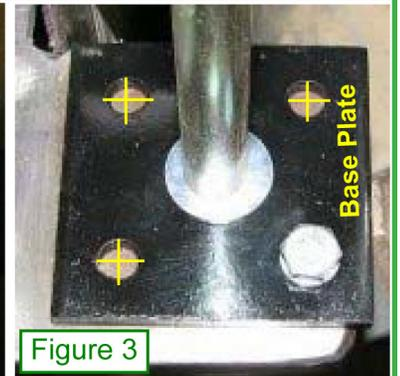

Figure 3
3. Position the two base plates on the table extensions as shown in Fig. 3 with edges of base plate flush with rear inside edges of table extensions. Mark hole positions on table exactly. Remove the **13385** from sander table.
5. Replace the **13385** assembly on table, install a  $\frac{1}{4}$ "-20 bolt with lock washer in each of the two holes prepared in step 4. Recheck base plate locations. (Fig. 3) Mark, drill, and tap 6 additional holes in sander table. Install remaining 6 bolts and lock washers.